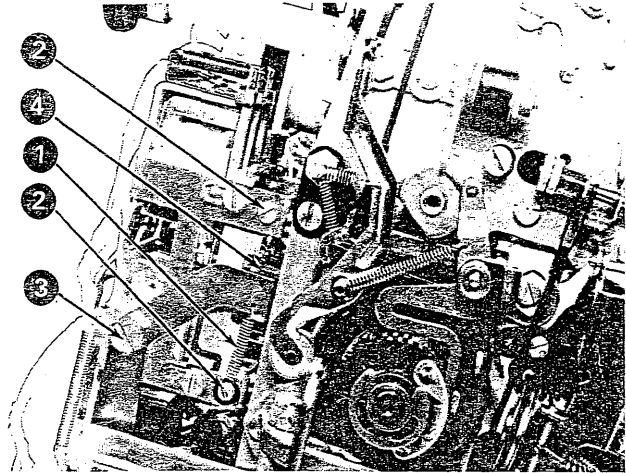

Figure 4-45. Operational-Magnet-Assembly Removal (Steps 1-5)
2. Remove the actuator-arm spring (No. 1, Figure 4-45).
3. Remove the two mounting screws (No. 2, Figure 4-45).
4. Remove the actuator-arm pivot screw (No. 3, Figure 4-45). It may be necessary to remove both pivot screws on some machines.
5. Remove the armature-link clevises (No. 4, Figure 4-45).